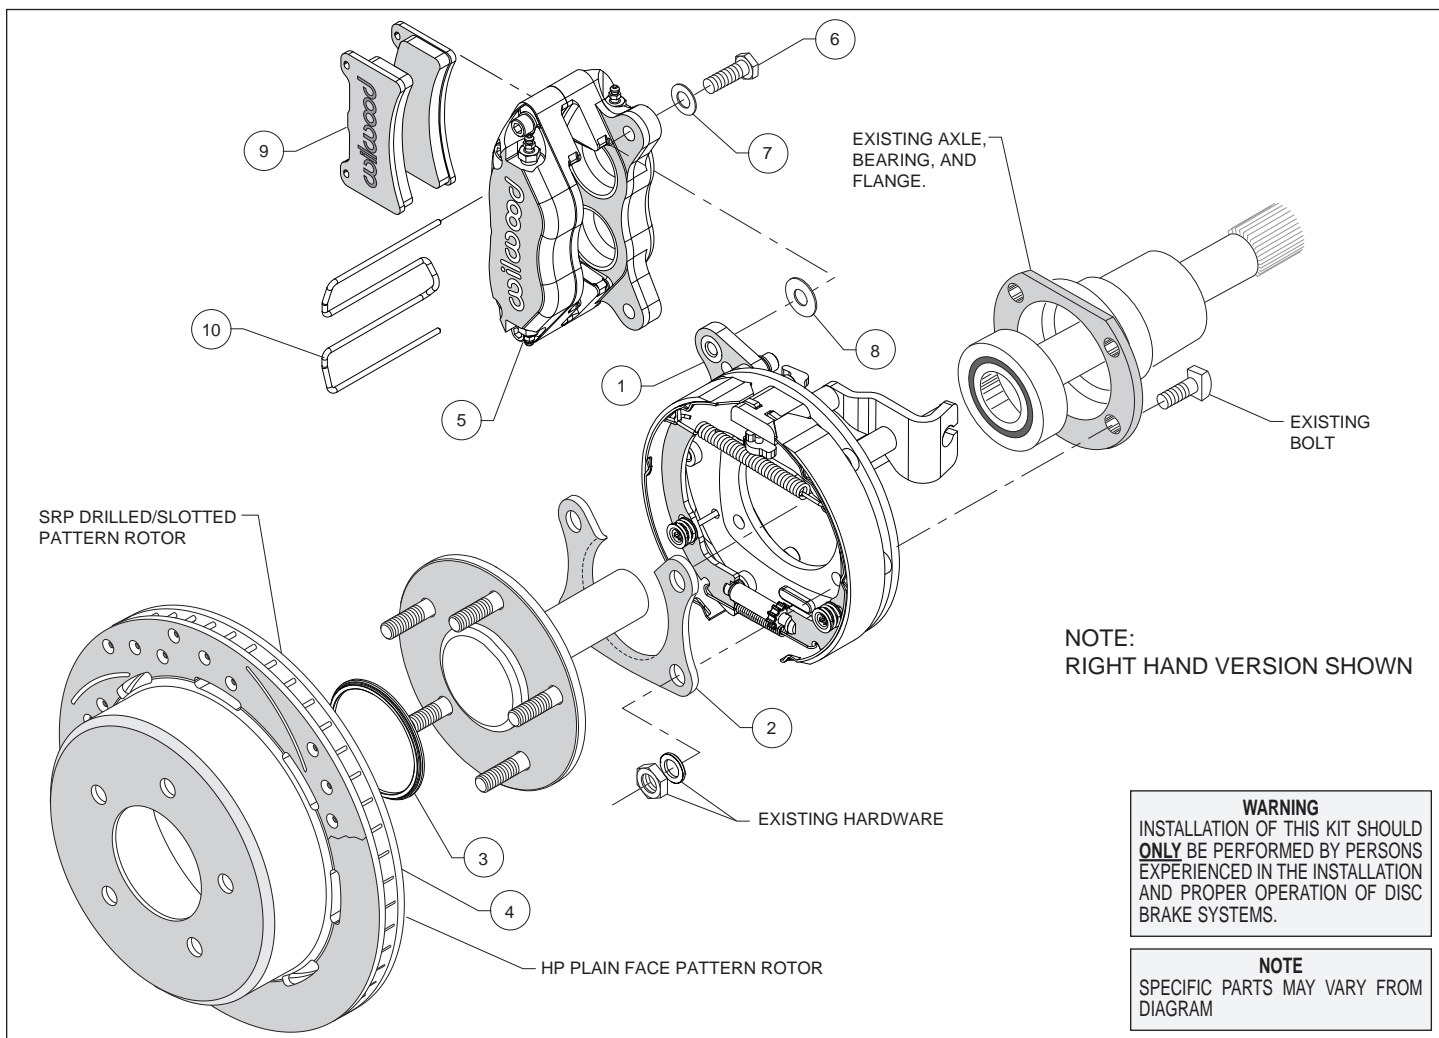
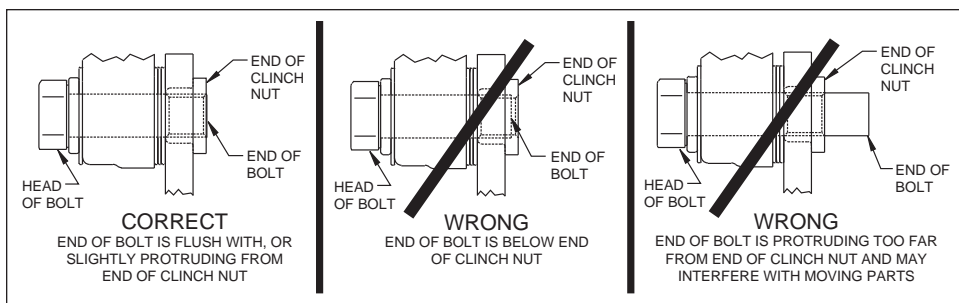

Figure 1. Typical Installation Configuration
Figure 5. Clinch Nut Engagement Diagram
Assembly Instructions (numbers in parenthesis refer to the parts list, and Figure 1 on the preceding pages): **CAUTION:** All mounting bolts must fully engage clinch nuts. Be sure to check that all bolts are either flush or protruding through flanged side of clinch nut after shimming, Figure 5.
- Orient the bracket assembly (1) as shown in Figure 1 and Photo 1, and slide it onto the axle. Insert the axle and bracket into the axle housing. Ensure that the bracket assembly backing plate fits flush against the axle housing flange.
- Install the bearing retainer (2) with the opening pointing upward and the lip facing inward (toward the bearing), as shown in Figures 1 and 4, and Photo 2. Secure retainer and bracket assembly to the axle housing flange using the Original Equipment Manufacturer (OEM) bolts, washer, and nuts, Figure 1. Apply red *Loctite*® 271 to the OEM bolt threads and torque to OEM specifications.
•Slide the rotor registration adapter (3) onto the axle register on the axle flange with the smaller O.D. facing toward the rotor/hat (4), Photo 3. Align the hole pattern in the rotor/hat with the stud pattern on the axle flange and slide into place, Figure 1 and Photo 4. **NOTE:** The rotor/hat must fit flush against the axle flange or excessive rotor run out may result. Install three lug nuts (finger tight) to keep the rotor/hat assembly in place while continuing with the installation. **NOTE:** Some OEM and after market axles come with stud sizes larger than 0.50" diameter. Verify stud size and have a qualified machine shop drill the bolt circle of the hat/rotor to the correct stud size, if necessary.
•**NOTE:** Please reference the caution statement at the beginning of the assembly instructions. Mount the caliper (5) onto the caliper mounting bracket (1) using bolts (6) and washers (7), as shown in Figure 1. Initially place one .035" thick shim (8) on each bolt between the caliper and the bracket, Photo 5. Temporarily tighten the mounting bolts and view the rotor (4) through the top opening of the caliper. The rotor should be centered in the caliper, Photo 6. If not, adjust by adding or subtracting shims between the bracket and the caliper. Always use the same amount of shims on each of the two mounting bolts. **NOTE:** The end of each bolt must be flush with or slightly protruding from the head of the clinch nut, as shown in Figure 5. If necessary place spare shims between washer (7) and caliper mounting ear to achieve the proper clinch nut engagement. Once the caliper alignment and clinch nut engagement are correct, remove the bolts one at a time, apply red *Loctite*® 271 to bolt threads, and torque to 40 ft-lb.